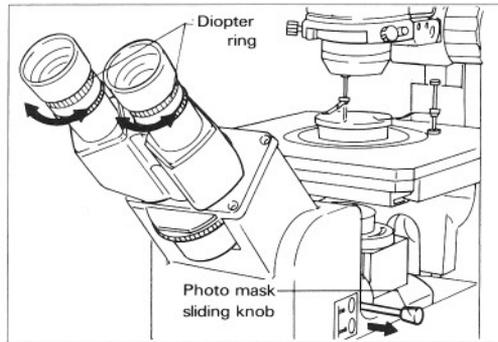

Fig. 21
- 2) Turning the diopter ring on each eyepiece, until the crossline image appears sharp. Do this adjustment for right- and left-hand eyepieces. (Fig. 21)